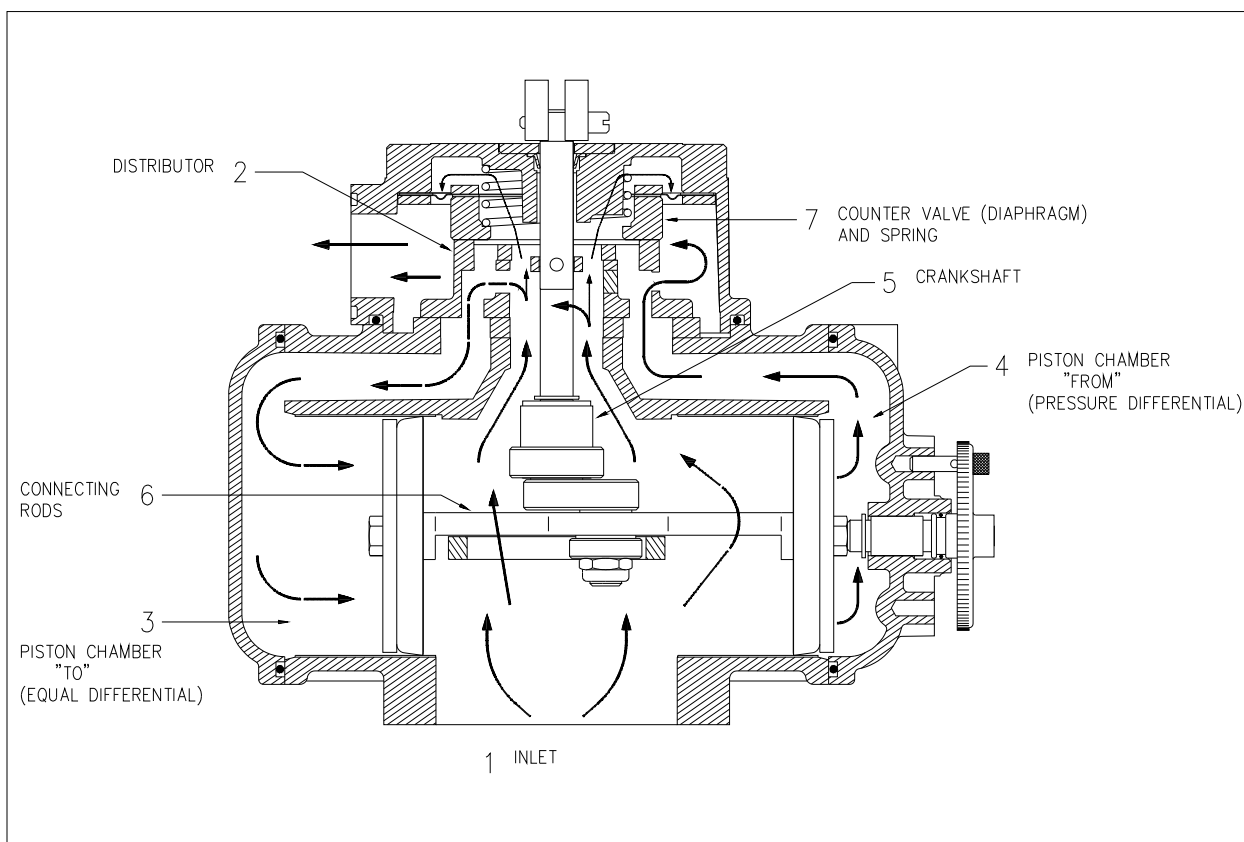

Figure 11
1. Product enters at the bottom inlet (1) and fills the inner cavity of the meter. See Figure 11.
2. As the meter body fills, product passes around the crankshaft and up to the top throat of the meter body. From the top throat, product flows to the distributor (2) which either ports product "to" or "from" each of the four piston chambers.
3. When the distributor (2) is in a position that allows product to be ported "to" a piston chamber (3), equal pressure is applied across both sides of the piston. Equal pressure applied across a piston offers zero resistance to the crankshaft (5) via the piston's connecting rod (6).
4. When the distributor (2) is in a position that allows product to be ported "from" a piston chamber (4), there is greater product pressure applied to the inside of the piston than to its outer side. The differential of pressure causes the piston to travel in an outward direction. As the piston travels in an outward direction, product is ported to the meter's top collector and to its outlet.
6. A spring and pressurized countervalue (7) employing a diaphragm imparts a downward thrust on the rotating distributor to seal its surfaces and prevent internal leakages which would result in unmeasured product being delivered.